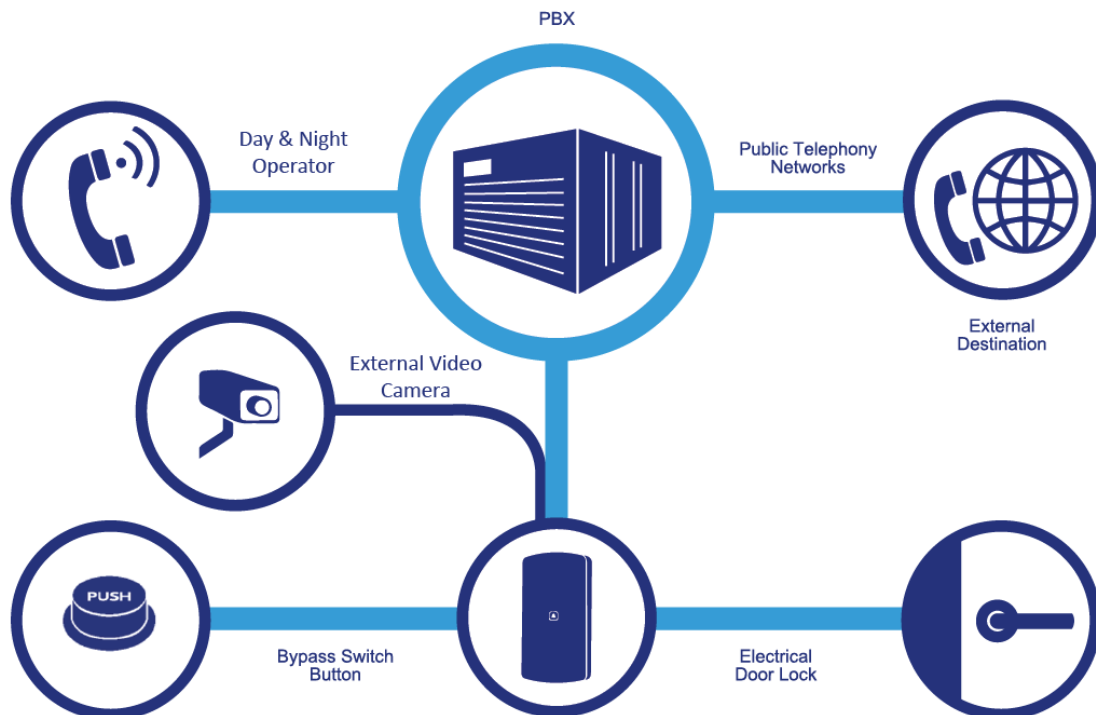

Figure 6-1 Door Phone wall installation
3. Attach rubber mat on the wall and then metal installation wall bracket using the provided wall screws. (See Figure 6-1). The rubber mat shall be directed to a wall with the rugged side.